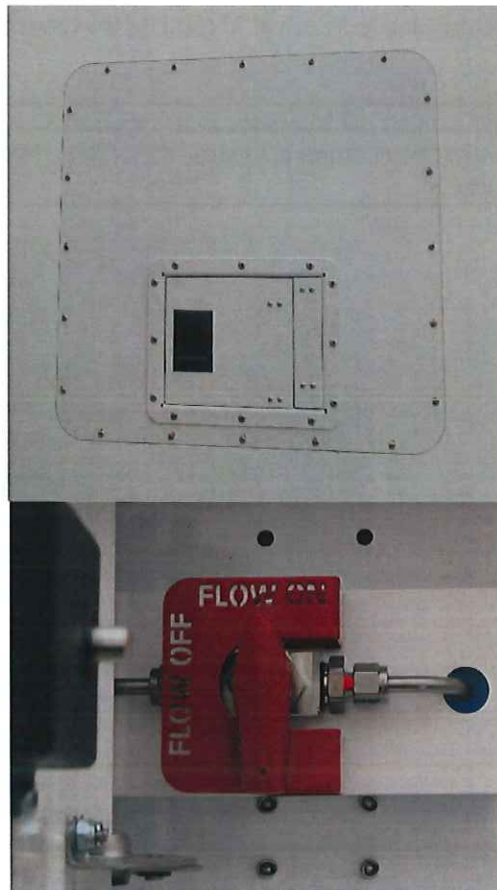

Figure 19: Shut-Off Valve "Closed" (Flow On) Position
9. Be sure all Shut-Off Valves on the front of the module are in the "closed" (Flow On) position shown in Figure 19.